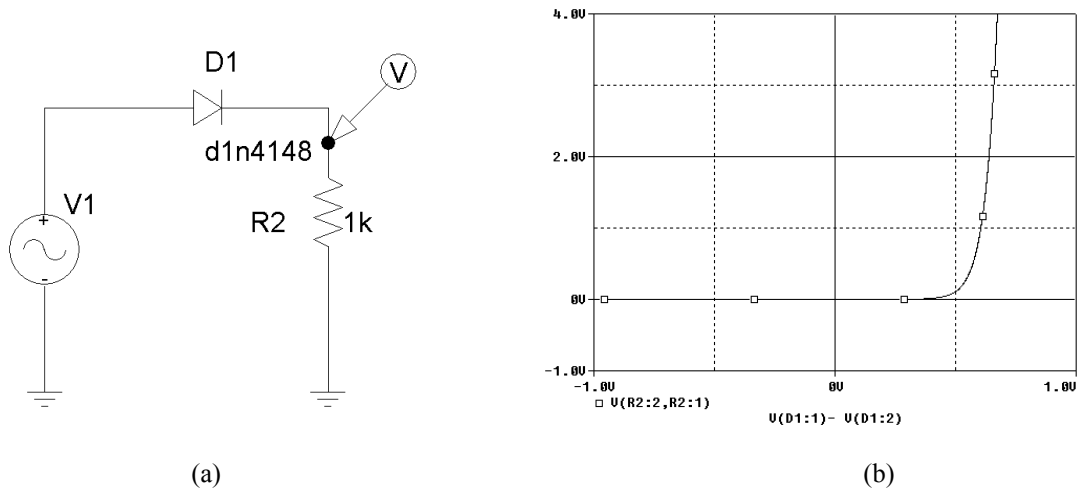

Fig 3. (a) Diode Test Circuit for I-V Characteristic in PSpice and (b) Resulting Waveform
*Diode I-V Characteristics:* to examine the I-V characteristics of a diode one can setup a test circuit like that shown in Fig 3(a). Measure the voltage drop across the diode ( $V_D$ ) and across the resistor ( $R_I$ ) for different values of V1 (note carefully the polarities of the measured voltage drops, and the current now being scaled up by the resistor value). The resulting measurement points should lie on the line shown in Fig 3(b), which clearly shows the exponential relationship previously given for the diode current.
1. Using PSpice, set up the circuit shown in Fig 3(a). Perform a DC sweep analysis for the source V1 from -1 to 1V. To do that, in the menu bar go to Analysis --> Setup --> check DC sweep --> DC sweep --> choose voltage source as your variable type, and input the source name. Then choose linear sweep and set your start and end values. Use an increment of at most 5mV. **Note: since the added source is an AC source, initialize its configurable parameters to 0. Otherwise, you will receive error messages and the simulation will not run.**
2. The resulting waveform will have the voltage drop across the resistor on the Y-axis and the swept voltage on the X-axis. To obtain the waveform in Fig 3(b), you will need to modify the parameter for the X-axis. To do so, double click on the X-axis --> Axis Variable. In the trace expression, select the node potential V(D1:1), insert a – sign, then select the node potential V(D1:2) --> OK. Your waveform should now resemble Fig 3(b). Attach the waveform to your pre-lab report. What is the approximate ON voltage of the diode?